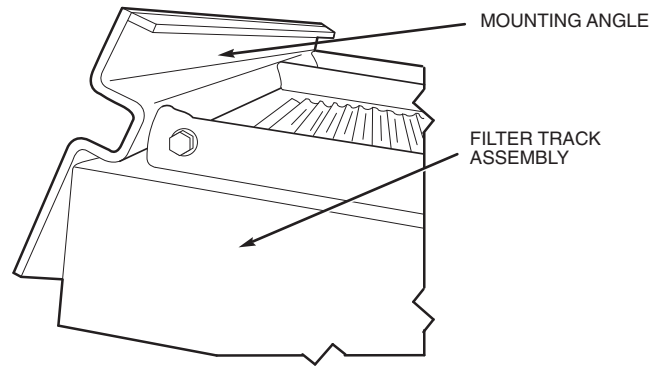

Fig. 32 — Mounting Angle Attached to Filter Track Assembly
11. Attach one mounting angle to the assembled end of the filter track. See Fig. 32.